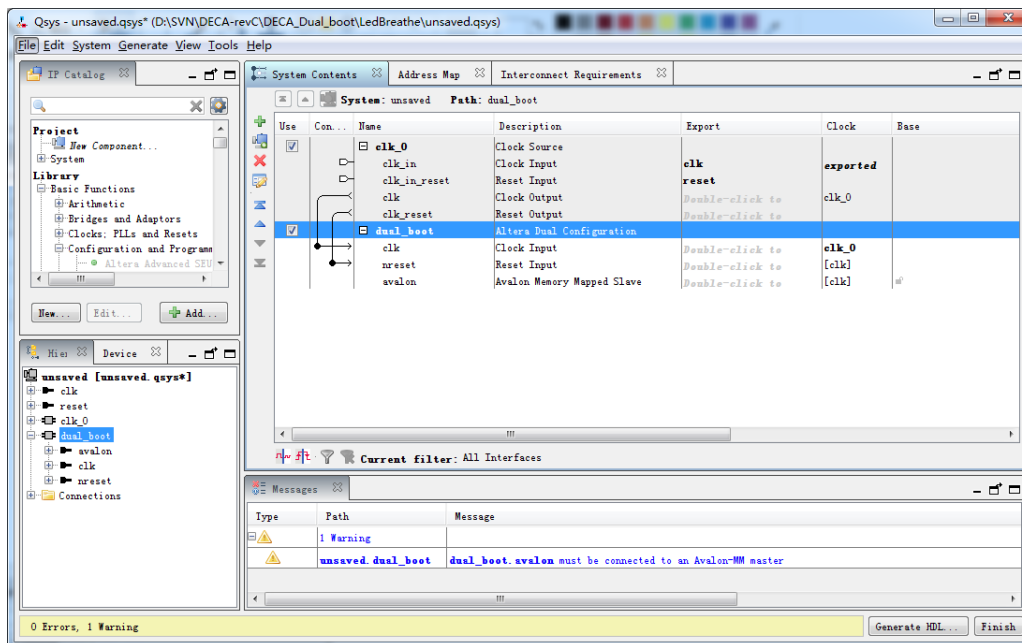

Figure 7-3 Rename and Connect Dual Boot IP
- Open Quartus project and choose **Tools > Qsys** to open **Qsys** system wizard. Create a new system and add the dual configuration IP. Connect the logic as **Figure 7-3**.